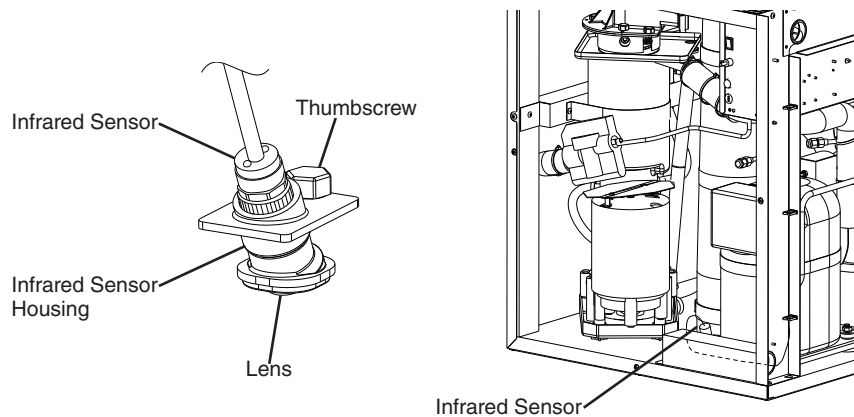

Fig. 14
- 7) "GM" LED and "COMP" LED are on. Use an object to cover the infrared sensor lens at the bottom of the icemaker. If the bottom of the icemaker is not accessible in your application, remove the thumbscrew securing the infrared sensor housing, remove the housing from the base, then cover the infrared sensor lens. See Fig. 14. The infrared sensor yellow LED turns on. The infrared sensor yellow LED flashes when ice is at the outer limit of its range and turns steady as ice nears. After the infrared sensor yellow LED turns on (flashing or steady), the infrared sensor shutdown delay timer starts (S2 dip switch 1, 2, 3; factory default is 100 sec.). "COMP" LED turns off after the infrared sensor shutdown delay timer terminates. 5 minutes later, "GM" LED turns off.